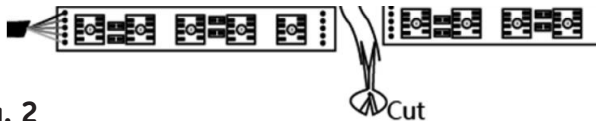

Fig. 2
- When cutting the LED flex, ensure to only do so at the marked cutting points (see Fig. 2)